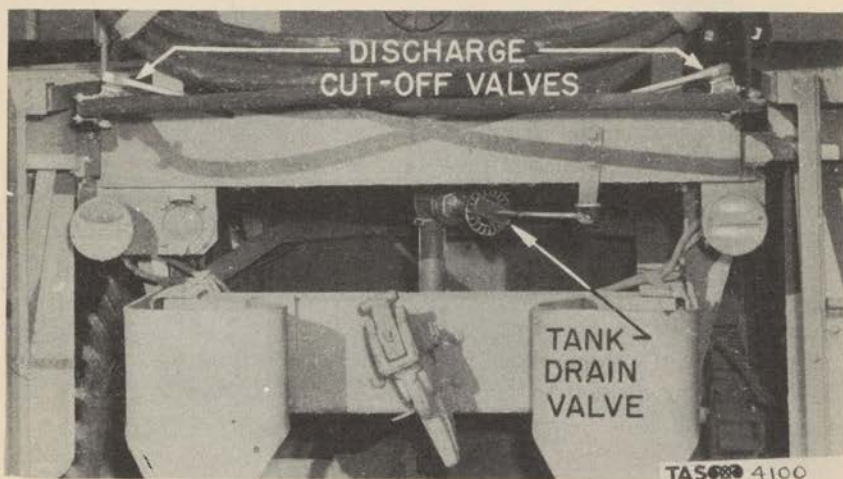

Figure 145. Valves at Rear of Truck.
(1) Open the bleach intake valve.
(2) Open the tank drain (fig. 145), and tank return valve.
(3) Run the pump only long enough to force out water. (Not longer than 10 seconds). This operation usually expels most of the water but cannot be relied upon for complete drainage.